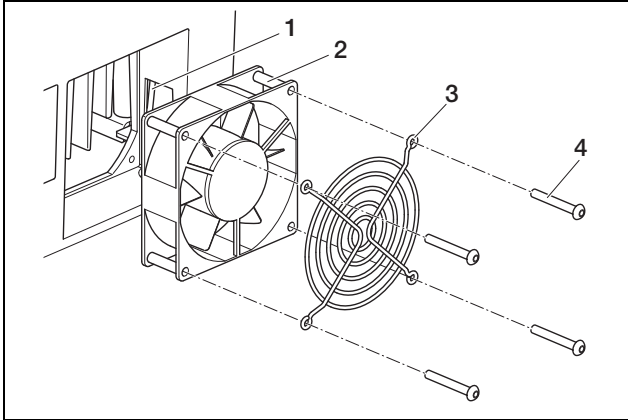

Fig. 59: Dismantle fan (PIKO 4.2/5.5)
- PIKO 4.2/5.5: Loosen the screws (4 in fig. 59) and carefully remove the fan grille and the fan.